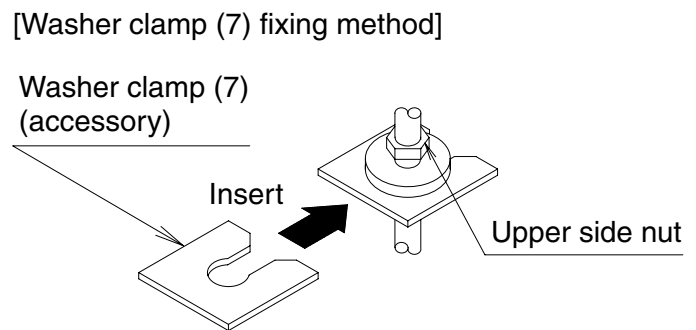

Fig. 3
If the washer clamp (7) is used, the upper side washer for hanger (3) may be protected from falling off. **(Refer to Fig. 3)**